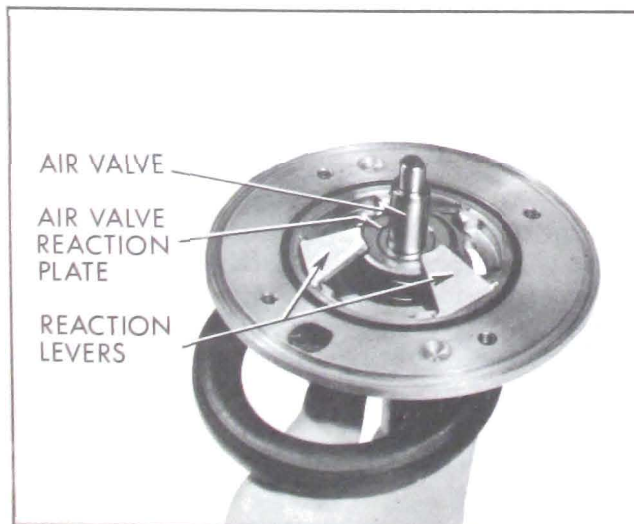

Figure 9-23—Installing Parts in Power Piston
10. Wipe a thin coat of silicone grease on both sides of reaction levers. Place wide ends of reaction levers in their seats in the power piston, and rest narrow ends on air valve reaction plate. See Figure 9-23.